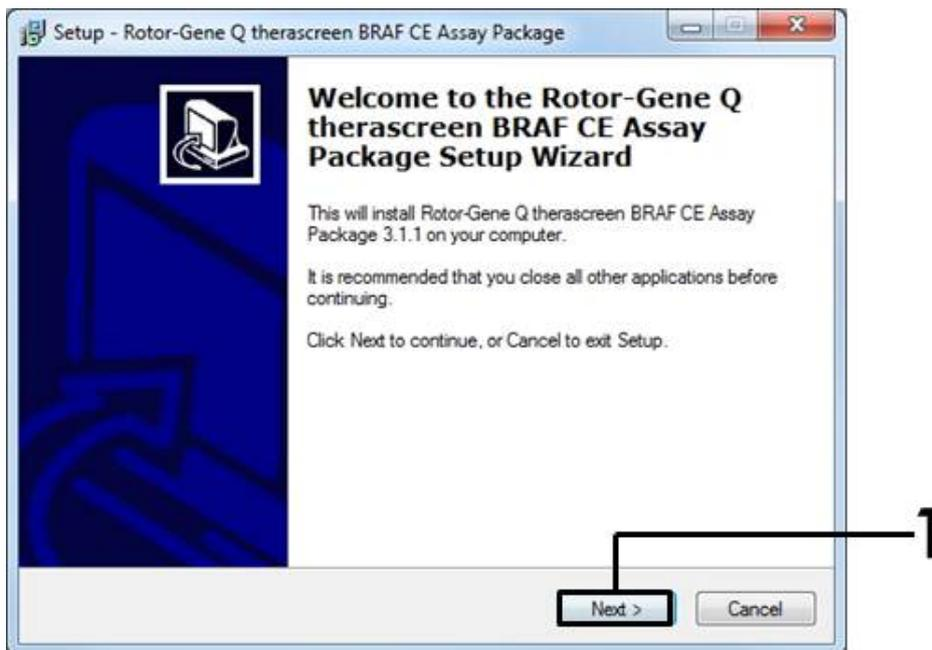

Figure 41. The "Setup" dialog box. (1 = "Next" button).
4. The setup wizard will appear. Click "Next" to continue (Figure 41).